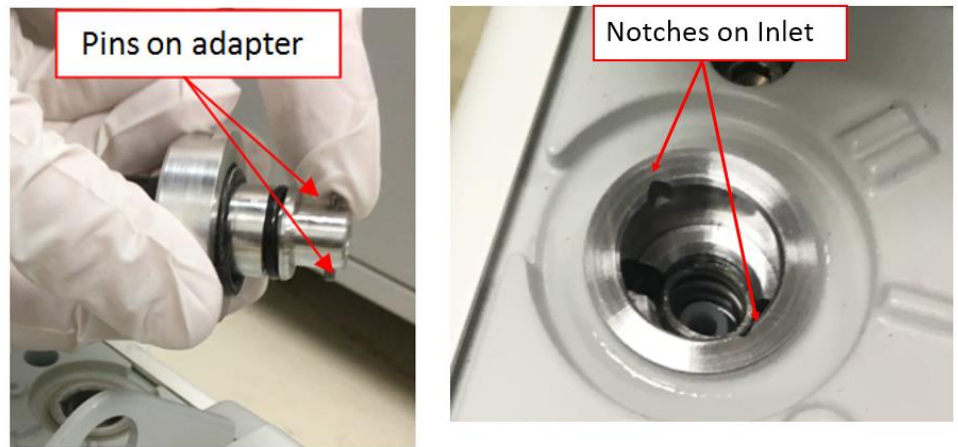

Figure 12: Finding the mating pins and notches
- 5) Locate the pins on the gas ballast adapter and the mating notches on the inlet port on the foreline pump. See Figure 12.